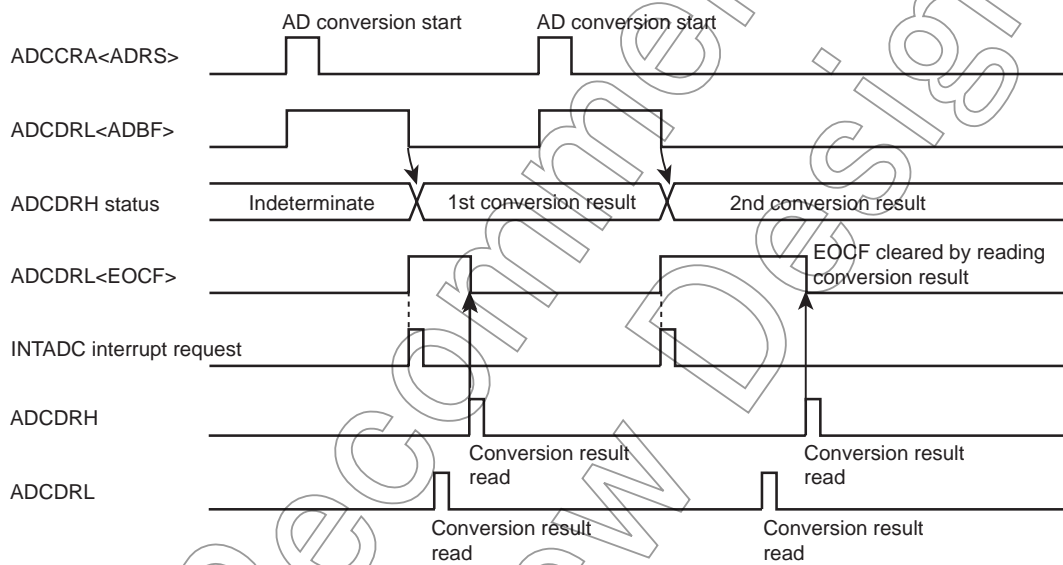

Figure 18-2 Software Start Mode
- Set the AD conversion time using AD conversion time (ACK). For details on how to set the conversion time, refer to Figure 18-1, Figure 18-2 and AD converter control register 2.
- After setting up (1) and (2) above, set AD conversion start (ADRS) of AD converter control register 1 (ADCCRA) to "1". If software start mode has been selected, AD conversion starts immediately.